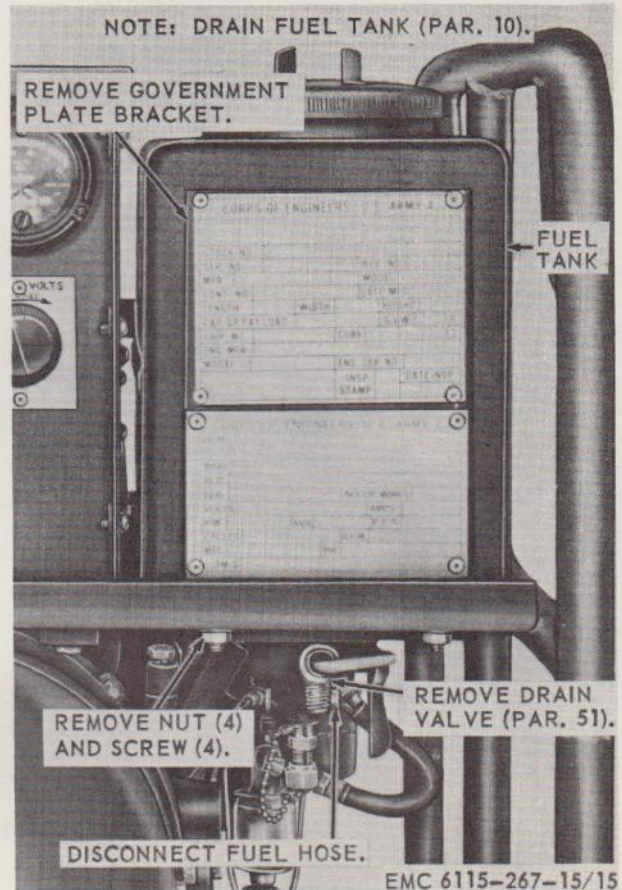

Figure 15. Fuel tank—removal and installation.
- (1) Remove the fuel tank cap and strainer (par. 35).
- (2) Remove the fuel hose, drain valve, and fuel plug cock (par. 51).
- (3) Remove the fuel gage (par. 52).
- (4) Refer to figure 15 and remove the fuel tank.
- (1) Refer to figure 15 and install the fuel tank.
- (2) Install the fuel gage (par. 52).
- (3) Install the fuel hose, drain valve, and fuel plug cock (par. 51).
- (4) Install the fuel tank cap and strainer (par. 35).